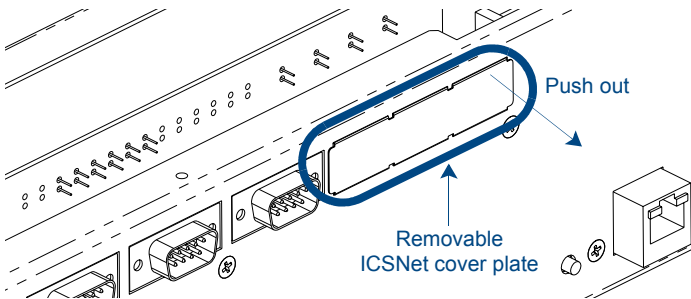

FIG. 7 ICSNet cover plate location
4. Push out the ICSNet cover plate from the inside of the unit. This action dislodges the cover plate and reveals the three ICSNet connector openings (FIG. 7).